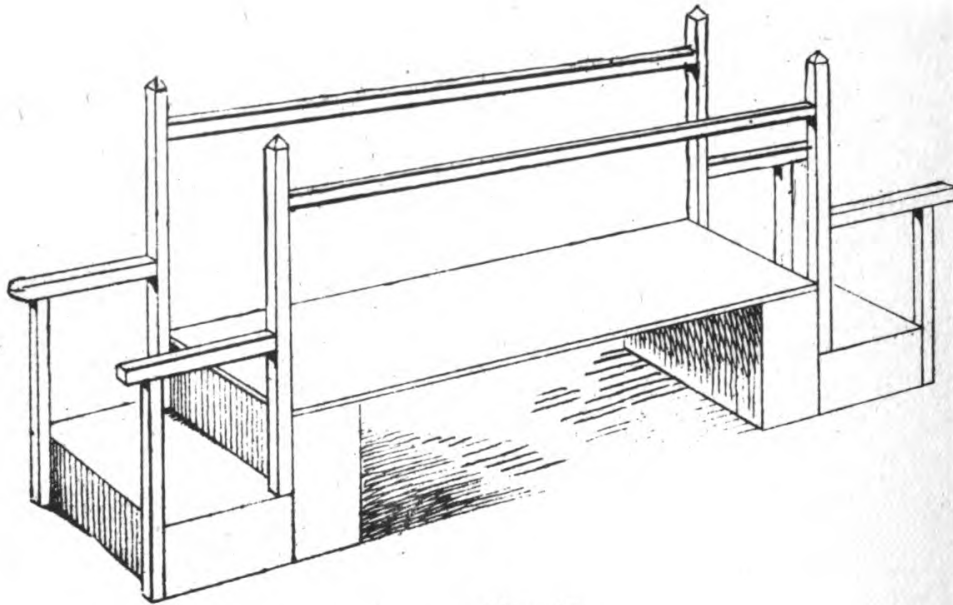

FIG. 29.
*A Step Bridge*, as shown in Fig. 29. This is a very pretty little model, and one quite delightful to make. For it we require four  $1\frac{3}{4}$  in. or  $2\frac{1}{4}$  in. match boxes, a piece of cardboard or veneer, and some match stales.